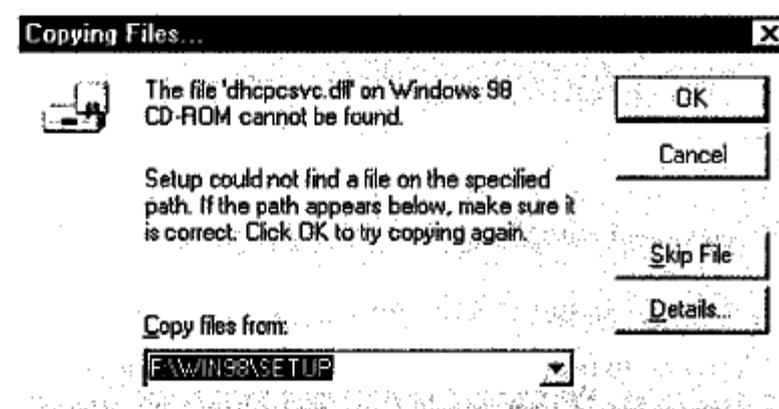

Figure 3-14
8. In the "Copying Files" dialog box. Enter the location of "Windows 98 CD-ROM" as shown Figure 3-14, and click "OK".